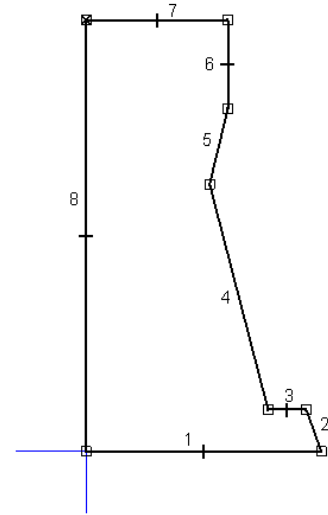

Figure 3-46 Profile for the revolved model
- d. Draw the required profile by using the **Line** tool, refer to Figure 3-46.
4. Complete the sketch of the revolved model by drawing the remaining lines by taking the reference of the first line, refer to Figure 3-46. The lines in this sketch have been numbered for your reference.